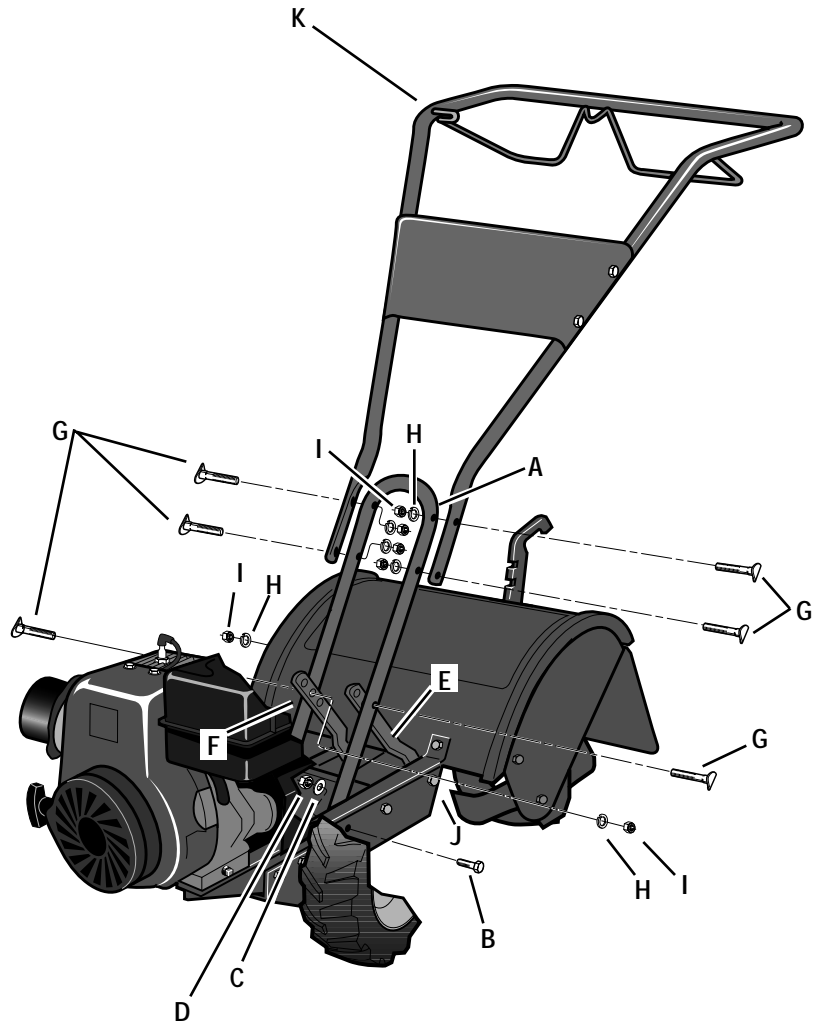

Fig. 2-2: Attach handlebar. (Model 12190 is shown.)
1	Handlebar Support (see A, Fig. 2-2, page 7)
1	Handlebar Assembly (see K, Fig. 2-2)
1. Attach the two legs of the handlebar support (A, Fig. 2-2) loosely to the inner sides of the tiller frame using two 3/8"-16 x 3/4" hex hd. screws (B), 3/8" flat washers (C) and 3/8"-16 hex locknuts (D).
2. Using the middle holes in the handlebar support brackets (E and F, Fig. 2-2), loosely attach the support brackets to the handlebar support (A) using two 5/16"-18 x 1-1/2" curved hd. screws (G), 5/16" split lockwashers (H) and 5/16"-18 hex nuts (I).